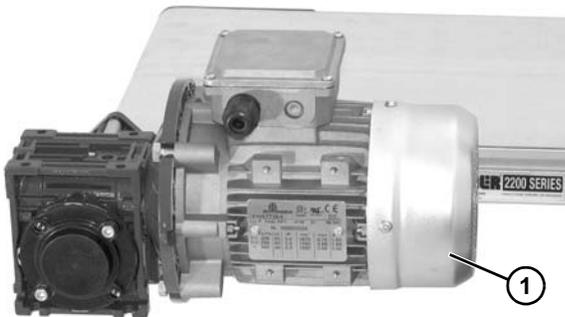
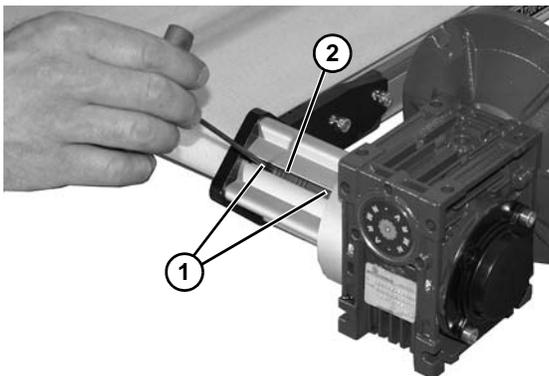

Figure 13
Figure 14
- Remove fan guard (Figure 13, item 1) and rotate fan to align set screws (Figure 14, item 1) with access slot (Figure 14, item 2). Tighten to 32 in-lb (3.7 N-m). Repeat for second set screw.